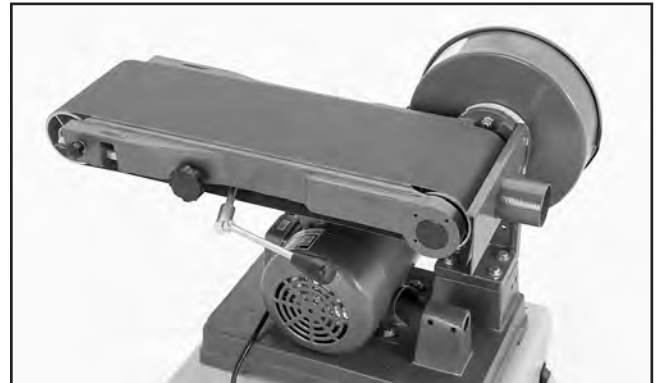

Figure 77. New belt installed.
6. Position the belt in the center of the roller, then move the quick release tension lever toward the motor to tension the belt (see **Figure 77**).